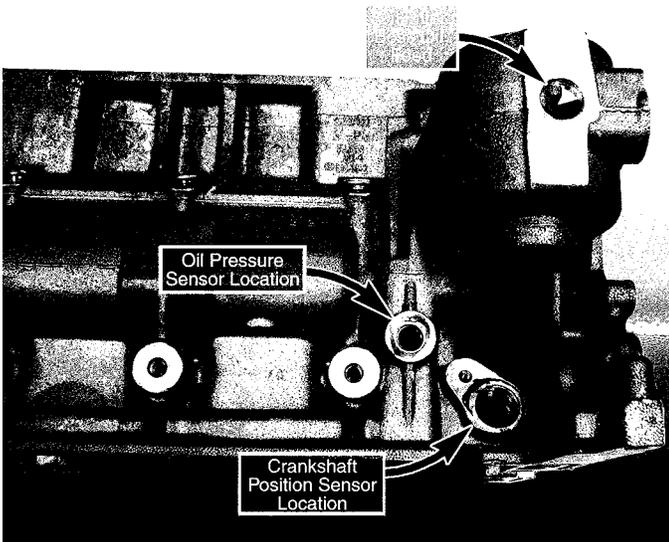

Figure 8
- The factory oil pressure sensor location hole is tapped to 1/4 pipe thread (Fig. 8).
- The factory crankshaft position location hole is tapped to -08 AN thread and plugged (Fig. 8).
- The oil filter housing boss is drilled and tapped to 1/2 pipe thread for an oil feed (Fig. 8).